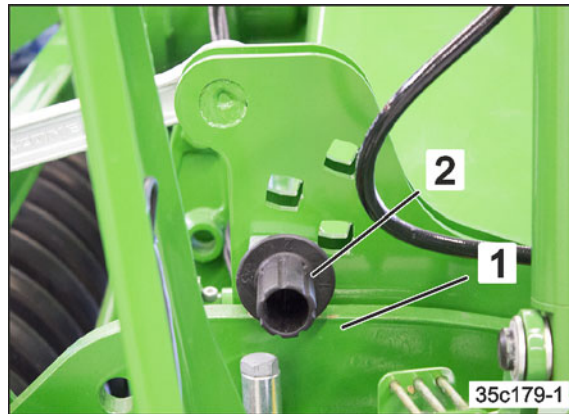

Fig. 103
1. Lift the implement just enough for the depth setting pins (Fig. 103/2) to clear the carrying arms (Fig. 103/1).